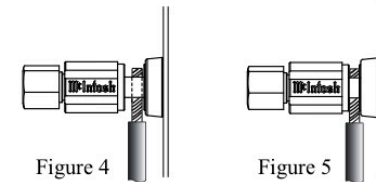

Figure 4
8. Connect the Loudspeaker hookup cables to the MC275 Negative Output Terminal (-) and Positive Output (+) Terminal identified as 4Ω (ohms), 8Ω (ohms) or 16Ω (ohms) connection to match the impedance of the Loudspeaker, being careful to observe the correct polarities. Insert the spade lug connector or prepared section of the cable end into the terminal side access hole, and tighten the terminal cap until the cable is firmly clamped into the terminals so the lugs or wire cannot slip out. **Do not over tighten.** Refer to figures 4, 5 and figure E.
12. For the MC275 MONO Mode of operation, use the supplied Jumper Bars for connecting the Output of the Left and Right Amplifier Channels in parallel. Insert the Jumper Bar into the terminal side access hole of the LEFT OUTPUT (-) Negative Terminal post and the other end of the Jumper Bar into the RIGHT OUTPUT (-) Negative Terminal post. Tighten the terminal caps until the Jumper Bar is firmly clamped into the terminals so the Jumper Bar cannot slip out nor touch the chassis. Refer to Connection Diagram located on the separate folded sheet “Mc1B”. Also refer to figures 4, 5 and figure E.